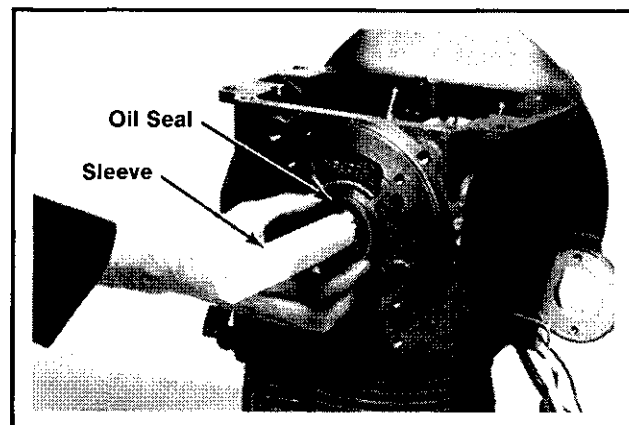

Figure 12B-19. Installing Oil Seals Using Sleeve.
2. Use the #11795 handle and appropriate seal drivers (refer to Figure 12B-20) to install the oil seals to the following depths: